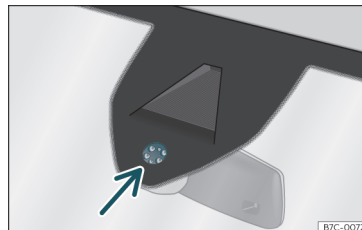

Fig. 98 Rain sensor sensitive surface
Possible causes of faults and mistaken readings on the sensitive surface»» Fig. 98 of the rain sensor include:
- Regularly clean the sensitive surface of the rain sensor»» Fig. 98 (arrow) and check for possible damage to the wiper blades.